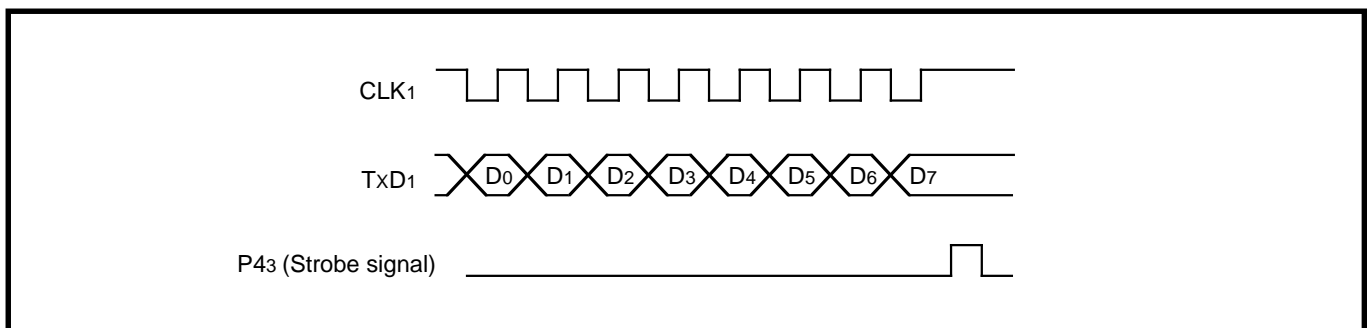

Fig. 17.2.16 Strobe signal output timing
(1) Specifications
- ① Clock synchronous serial I/O mode is selected.
- ② An internal clock is selected. Transfer rate = 2 MHz
- ③ LSB first is selected.
- ④ Transmit data is output at the falling edge of the transfer clock.
- ⑤ Pin TxD1's output structure: CMOS output
- ⑥ A strobe signal is output from port P43 each time 8-bit data is transmitted. (Refer to **Figure 17.2.16.**)
- ⑦ Completion of the transmission is determined by checking the transmission register empty flag.